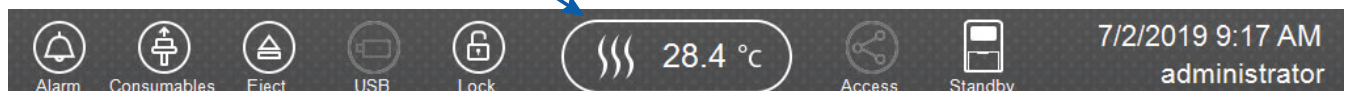

Figure 4. Preheating Oven.
2. Select the **Oven Temperature** icon in the Header on the 'Main Menu' screen as shown in Figure 4 to start preheating the oven temperature to 60°C. The temperature displayed will change as the temperature of the oven increases. When 60°C is reached, a check mark will appear adjacent to the temperature.